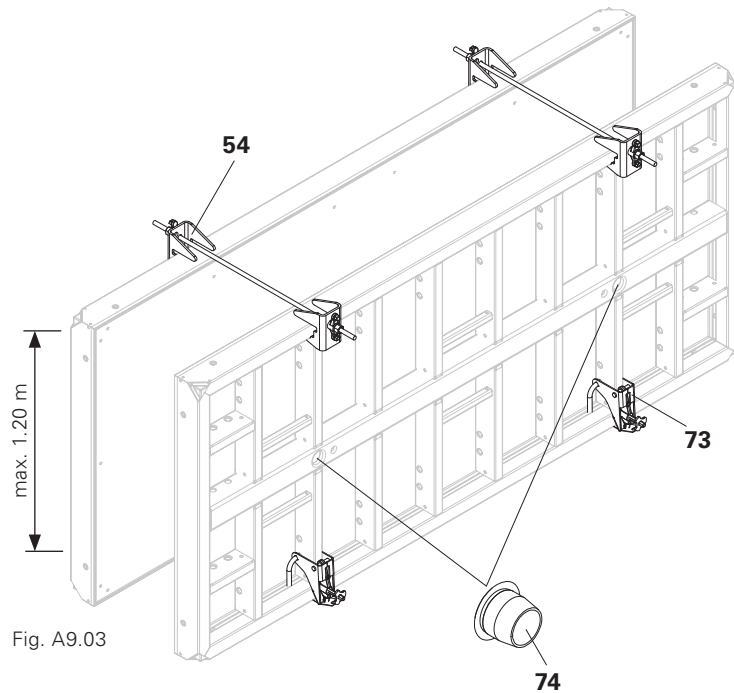

Fig. A9.03
1. Mount Tie System DW 15 (54) and Foundation Tie Clamp TRIO (73). (Fig. A9.03)
2. Close all open tie holes on the formlining side with Plugs (74), Item no. 125099.